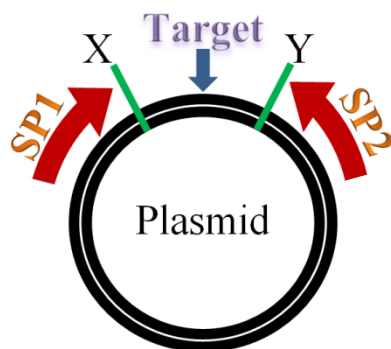

Figure 2:
1. Identify the position for the mutation in your plasmid ("Target" in Fig.2). This position will serve as the orientation point for the selection of restriction sites and primers. Now select two unique restriction sites (illustrated X and Y below) that flank your mutagenesis target. These restriction sites will be used at the end of the mutagenesis procedure to insert the final Enrichment PCR Product, P₅, into your plasmid. Make sure the distance between X and Y is more than 150 bp, but less than 10,000 bp. If available in your plasmid, select an additional restriction site(s) anywhere in-between the X and Y sites that do not occur elsewhere on the target plasmid. This site will be used at the end to disrupt the parental target region for better cloning results.